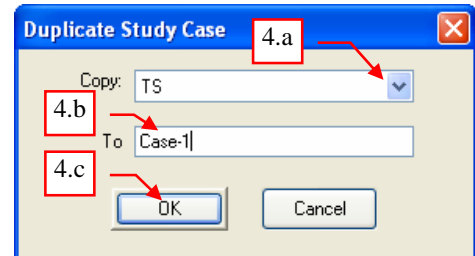

Fig. 1
4. The “Duplicate Study Case” dialog box will be displayed as shown in Fig. 1.